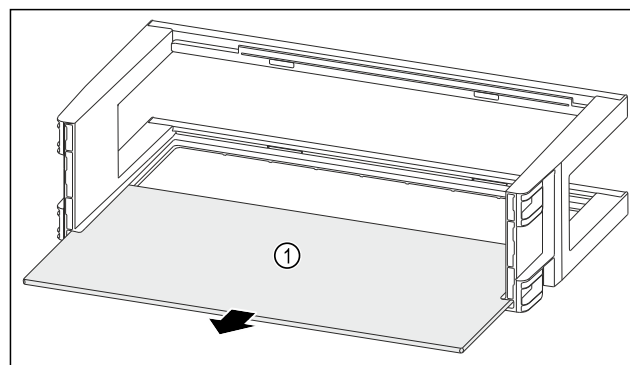

Fig. 146
- ▶ Remove the shelf Fig. 146 [1].